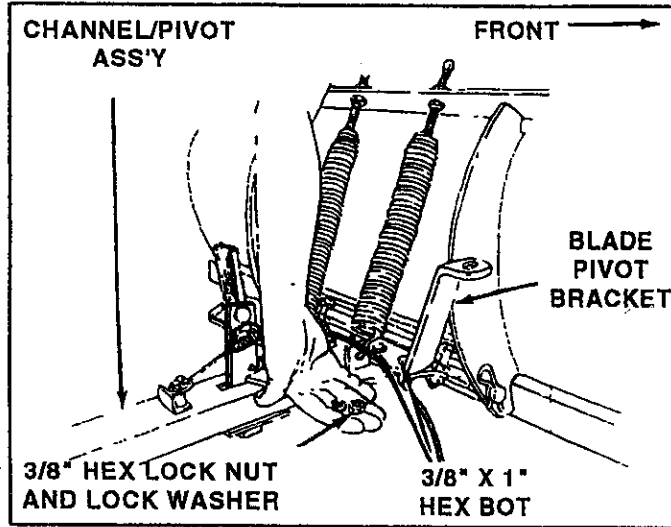

FIGURE 14
9. Assemble blade pivot bracket on to top right hand side of channel/pivot assembly. See figure 14. Assemble two 3/8" x 1" hex bolts down through bracket and plate and secure with two 3/8" lock washers and 3/8" hex nuts underneath.